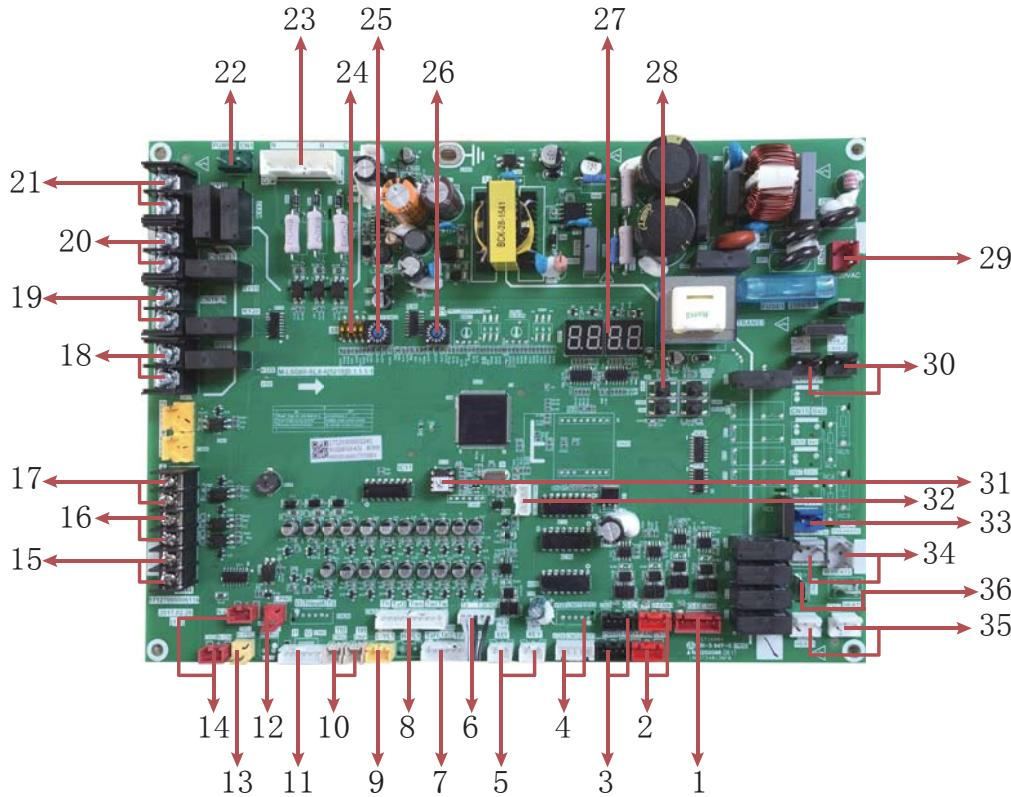

Fig.5-4
5.5.2 Indicating diagram of electric control of main control board (see *Fig.5-4*)
5.6 Detail description for parts in fig. 5-4